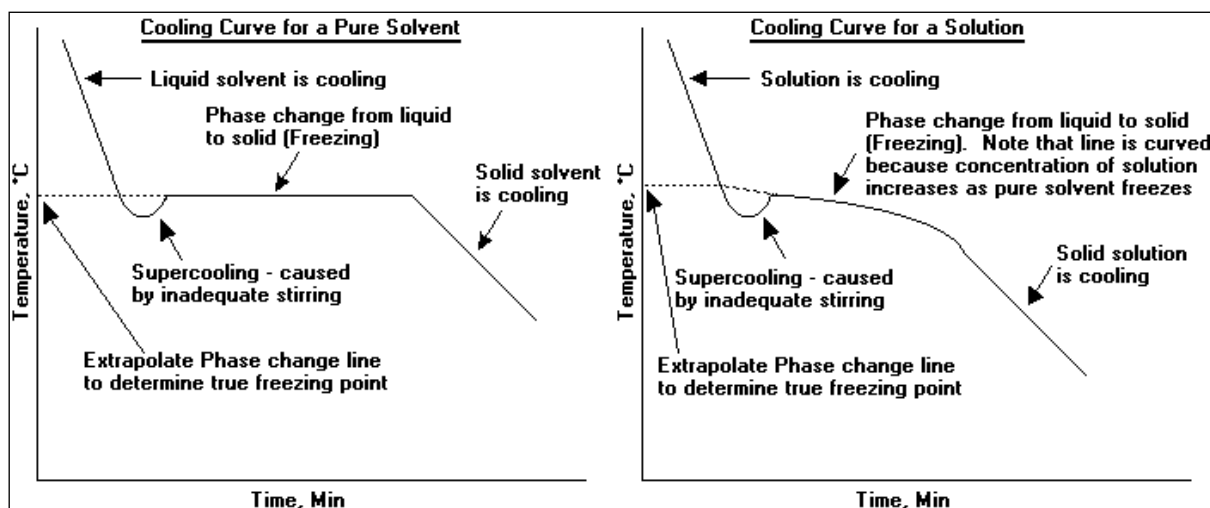

Figure 2. Cooling curves for a pure solvent and a solution
The freezing points of the cyclohexane and the cyclohexane solution are obtained from a cooling curve—a plot of temperature vs. time (Figure 2). The cooling curve for pure cyclohexane reaches a plateau at its freezing point. The cooling curve for the solution does not reach a plateau, but continues to decrease slowly as the cyclohexane freezes. Its freezing point is determined at the intersection of two straight lines drawn through the data points above and below the freezing point (Figure 2).
6. Explain why the freezing point of a pure solvent remains constant whereas the freezing point of a solution continues to decrease with time (Figure 2).